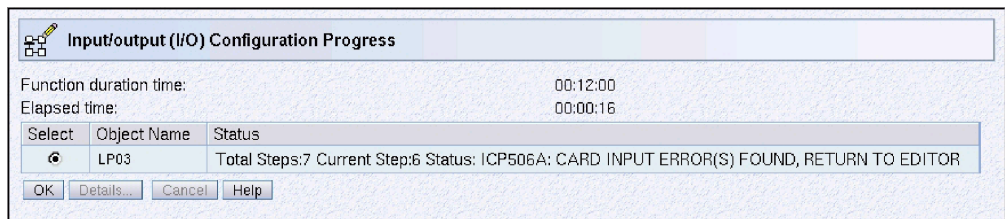

Figure 2-27. Input/output (I/O) Configuration Progress - Build with Errors
- Errors (see Figure 2-27 on page 2-20).
If the build was not successful, an error message will appear, as in Figure 2-27, and the resultant IOCDS will **NOT** be written to the support element hard disk.